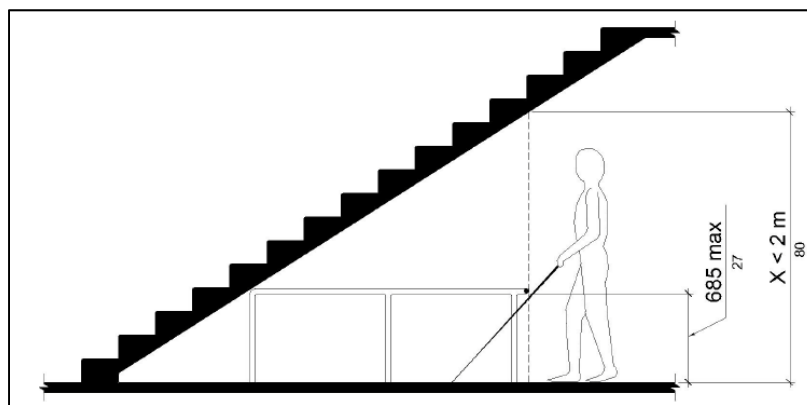

Figure 23 - Reduced Vertical Clearance
- Objects with leading edges between 2.25 ft. – 6.7 ft. above finish surface do not protrude more than 4 in. maximum into the pedestrian circulation path (see **Figure 23**). *PROWAG R402.2*
- Guardrails or other barriers to pedestrian travel are provided where the vertical clearance is less than 80 in. high (see **Figure 23**). *PROWAG R402.4*